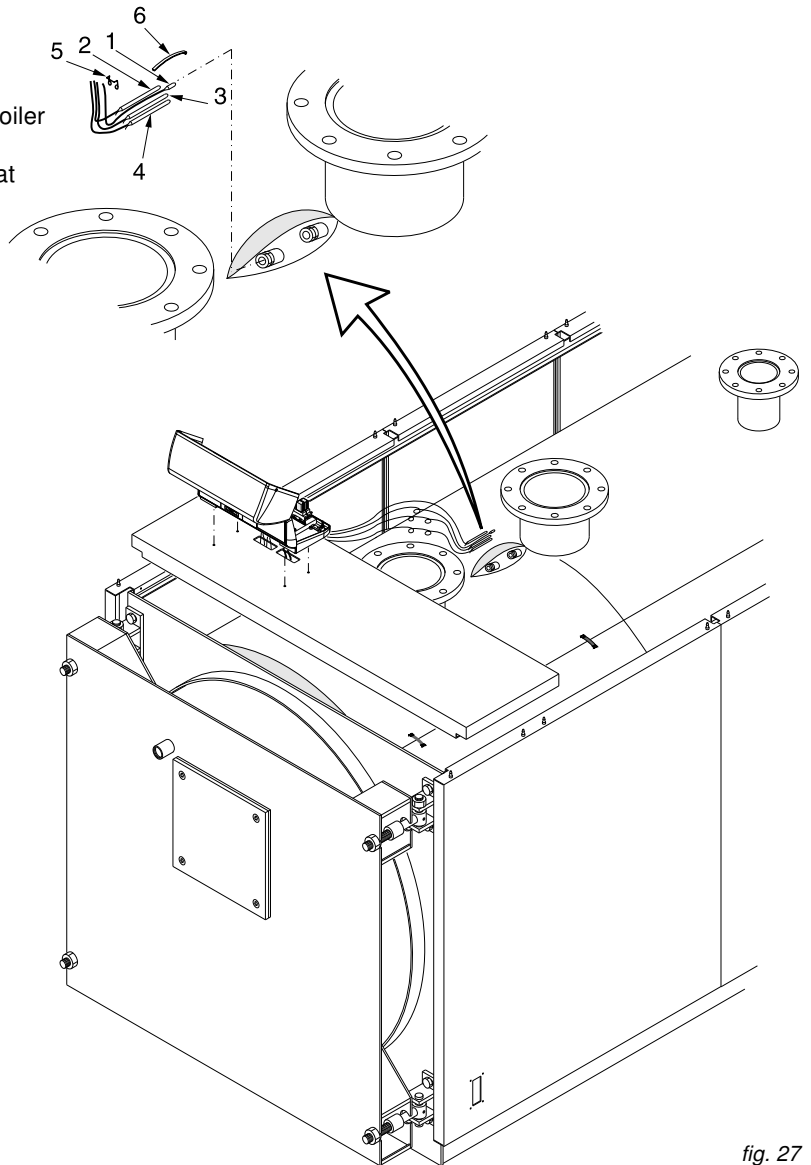

fig. 27
- E) Insert into the conduits the bulbs of the instruments as indicated in fig. 27 and wire the panel board to the power line,
- E) Insert into the conduits the bulbs of the instruments as indicated in fig. 27 and wire the panel board to the power line, to the burner and to any pumps, etc.
Following this sequence, insert the probes of the instruments in the bulb holder/s on the top of the boiler (Ref. Fig. 27): of the thermometer (pos. 1), of the working thermostat (pos. 2) of the safety thermostat (pos. 3), and of the minimum thermostat (pos. 4.) It is recommended to insert the probes all the way in the relative bulb holders for best contact.